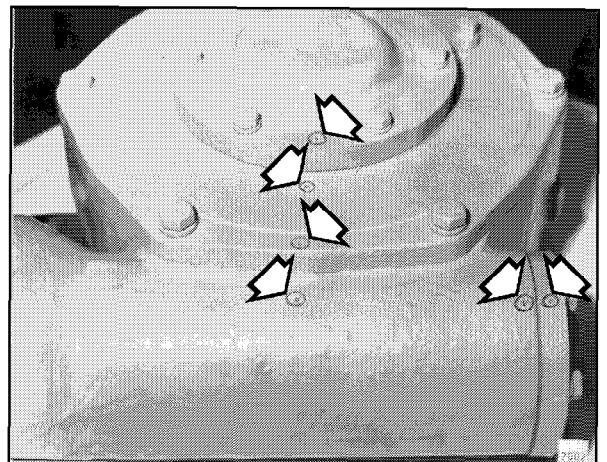

Figure 7
7. To aid in the reassembly of gear case, center punch caps, cover and gear case to mark their locations, as shown in Figure 7.